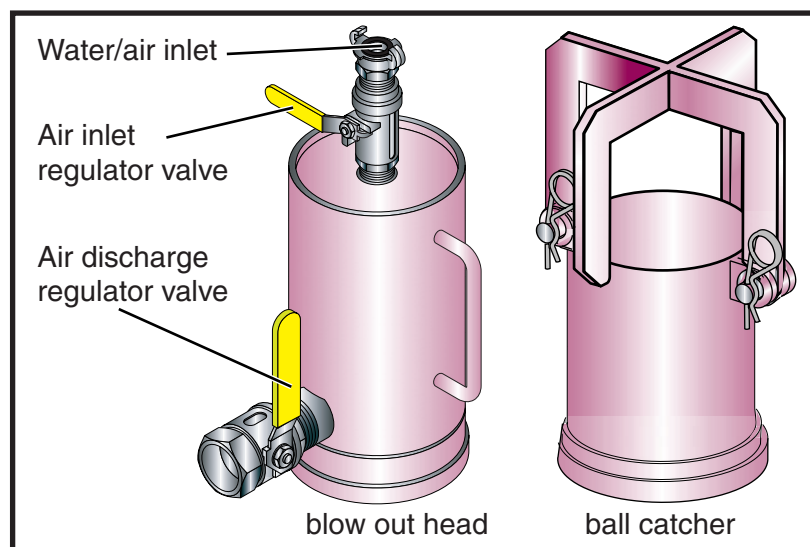

Figure 58
- **The pipe cleaning blow out head must be equipped with a properly sized air discharge regulator valve and a separate water/air inlet.** The two openings should be spaced apart far enough that a blowout ball could not cover both openings at once (Figure 58).